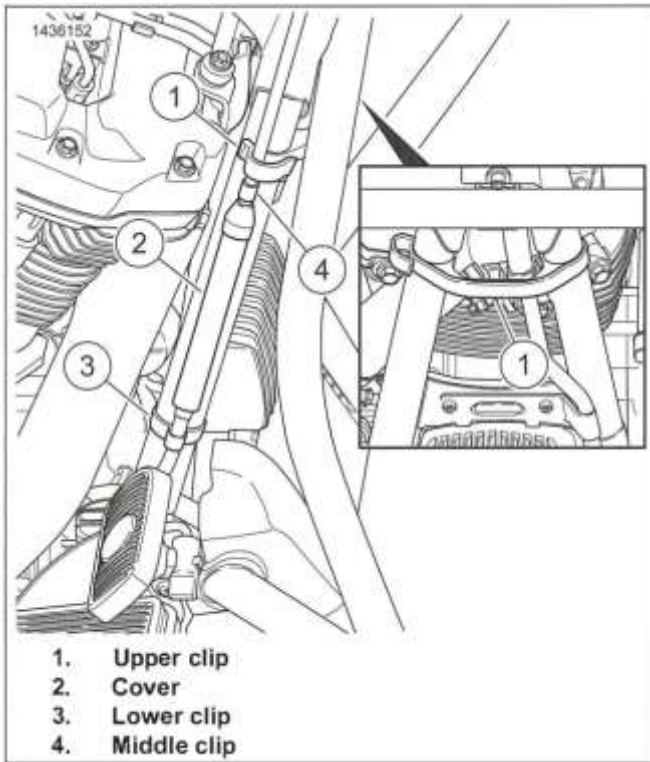

Figure 2-22. Clutch Adjuster Location
2. See Figure 2-22. Access two piece clutch cable.
- a. Remove lower clip (3).
- b. Remove clutch cable from upper clip (1).
- d. Slide cover (2) up.
12. See Figure 2-22. Slide cover (2) down.
13. Instal clutch cable in upper clip (1).
15. Install lower clip (3).